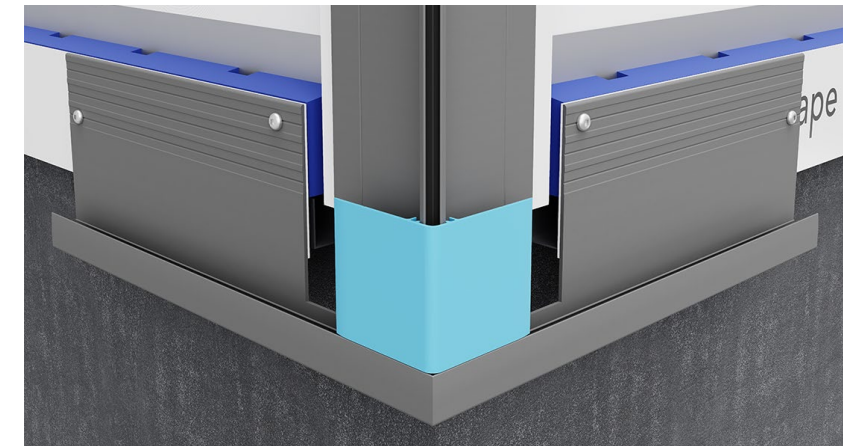

FIGURE 12. DUMMY SECTION CAP FLASHING ALIGNMENT
6. Position the Corner Cap Flashing (NC107X) and engage the “snap together” connection with a gentle tap with a dead shot hammer – or rubber mallet. Ensure the Corner Flashing (NC107X) and Base Channel Corner (NC134FAB) are perfectly aligned with the apex of the corner for a clean, accurate finish - See section 4.1 and figure 12.